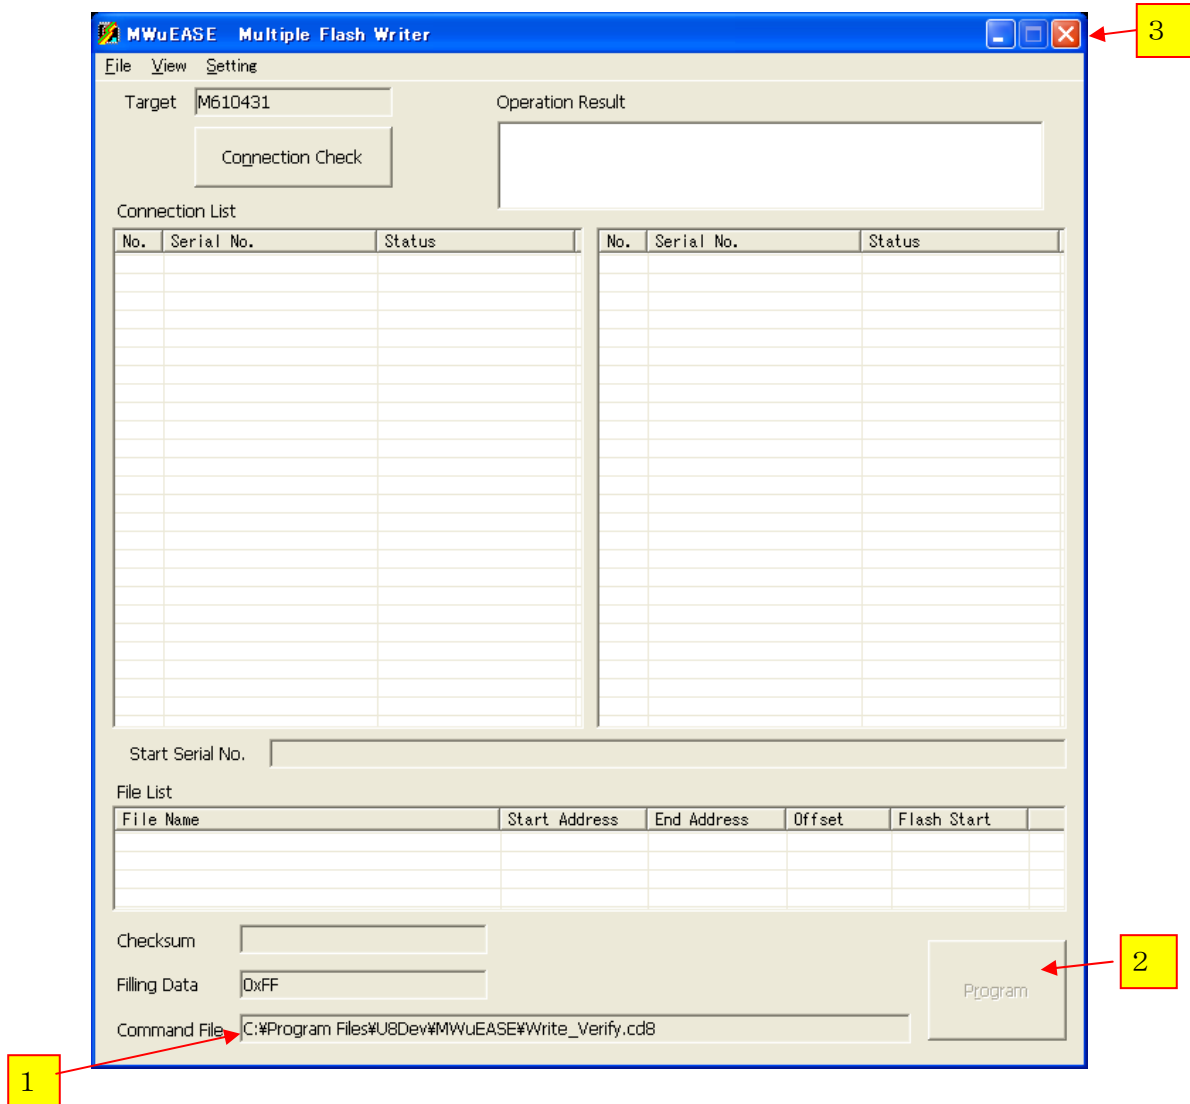

Fig.4-2 Main Dialog Box in Simple Mode
Fig.4-2 shows Main Dialog Box in Simple Mode.
Operation in Simple Mode is only one pushing on the [Program] button (No.2 in Fig.4-2). Then the following processings will be performed.
- The command described by the command file currently displayed on the [Command File] field (No.1 in Fig.4-2) will be executed.
Push on the [Exit] button (No.3 in Fig.4-2), a confirmation dialog for termination will be popped-up. At this time, push on the [OK] button, MWuEASE will terminate.